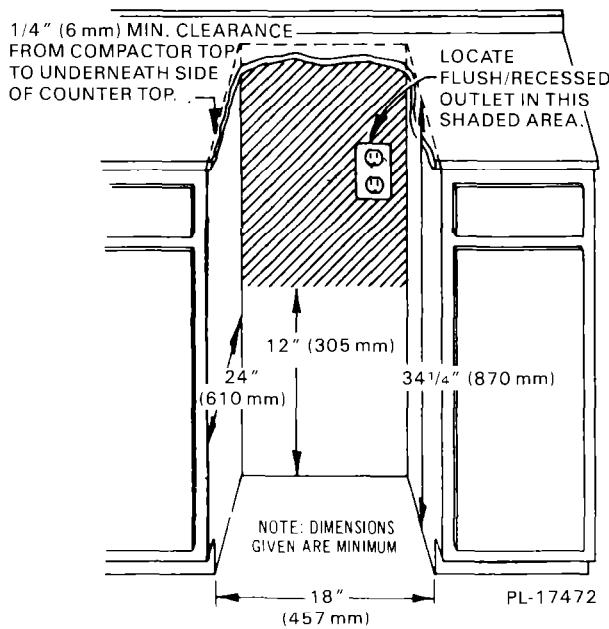

Fig. 2
1. Place compactor in front of proposed under-counter location. Slide compactor sideways with enough room to insert 3-pronged plug into the 3-prong wall receptacle (in shaded area of Fig. 2). Make certain that the cord is secured in the clamp at top rear of unit.